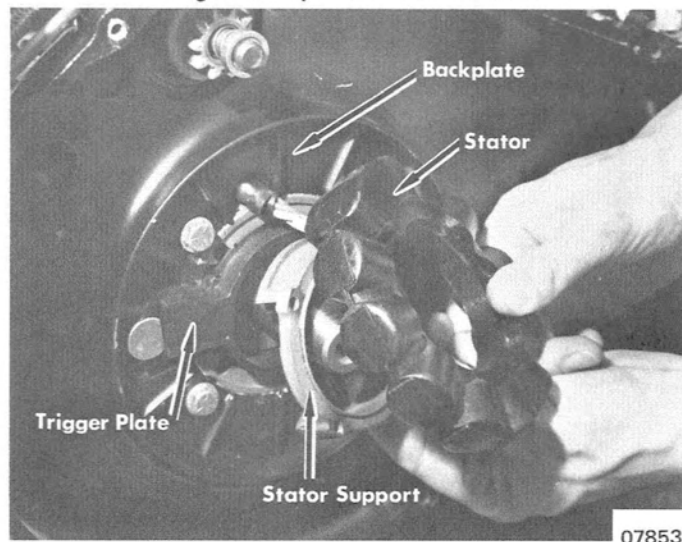

Figure 2. Trigger Assembly
7. Remove 4 screws from stator and remove stator and stator support. (Figure 2)
10. Thread trigger and stator wires thru backplate. (Figure 2) Remove trigger and stator assemblies.